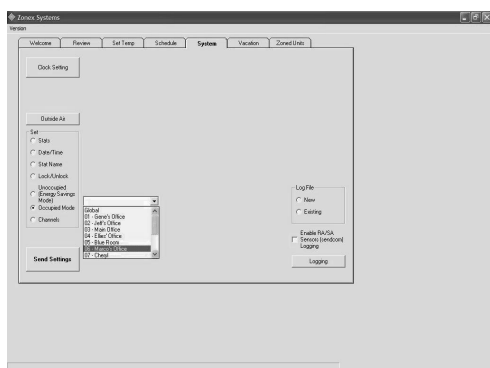

Fig. 14
1. Click on the **Occupied Mode** radio button (see Fig. 14).